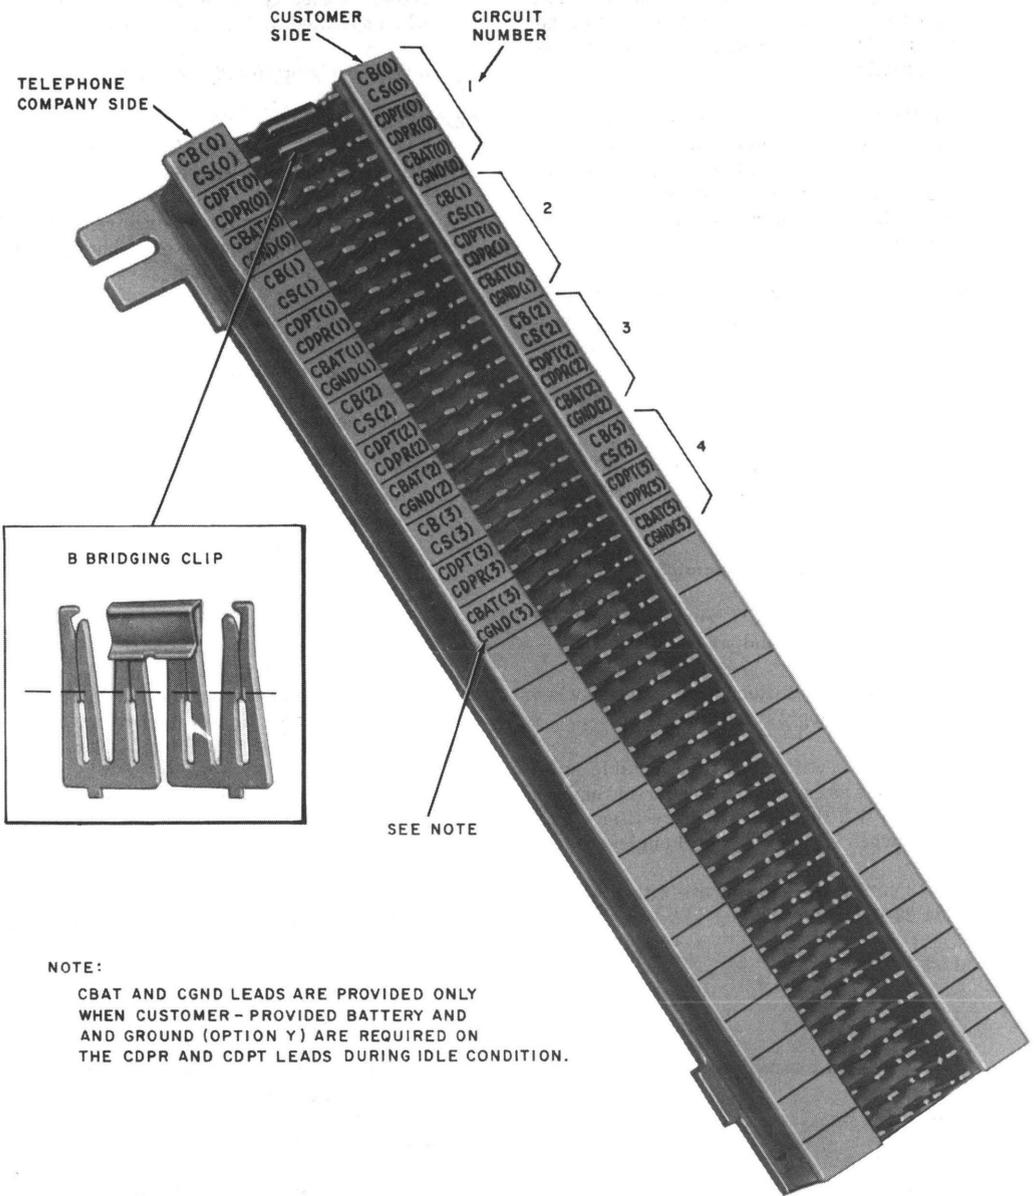

Fig. 6—Typical Interface Connecting Block, Connecting Arrangement CTD Equipped With J53050G, List 2 IU
- Block, Connecting, 66M1-50 (Fig. 6 or 9)
3.02 Use "D" inside wiring cable or equivalent to terminate the leads associated with the CPE on the interface connecting block. Stencil trunk number and lead designations on interface connecting block designation strip (see Fig. 6 or 9).